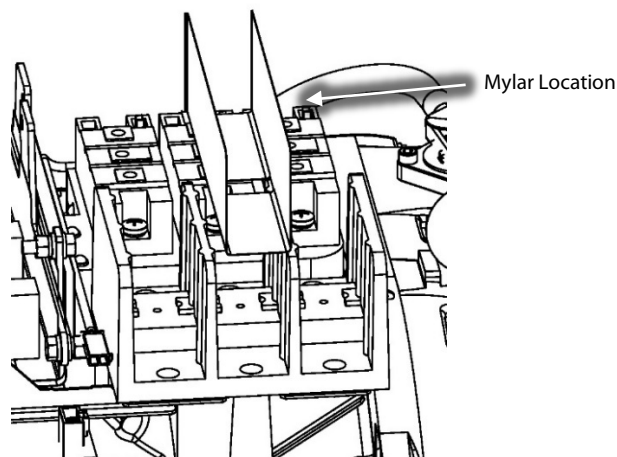

Figure 28 – Main Power Mylar Insertion
21. Place the capacitor membrane foil side down, underneath the main compressor housing and then reinstall the nylon nuts to the base of the DC capacitor assembly, under the main compressor housing and torque to specification. Refer to Figure 28 (Capacitor Nut Installation).